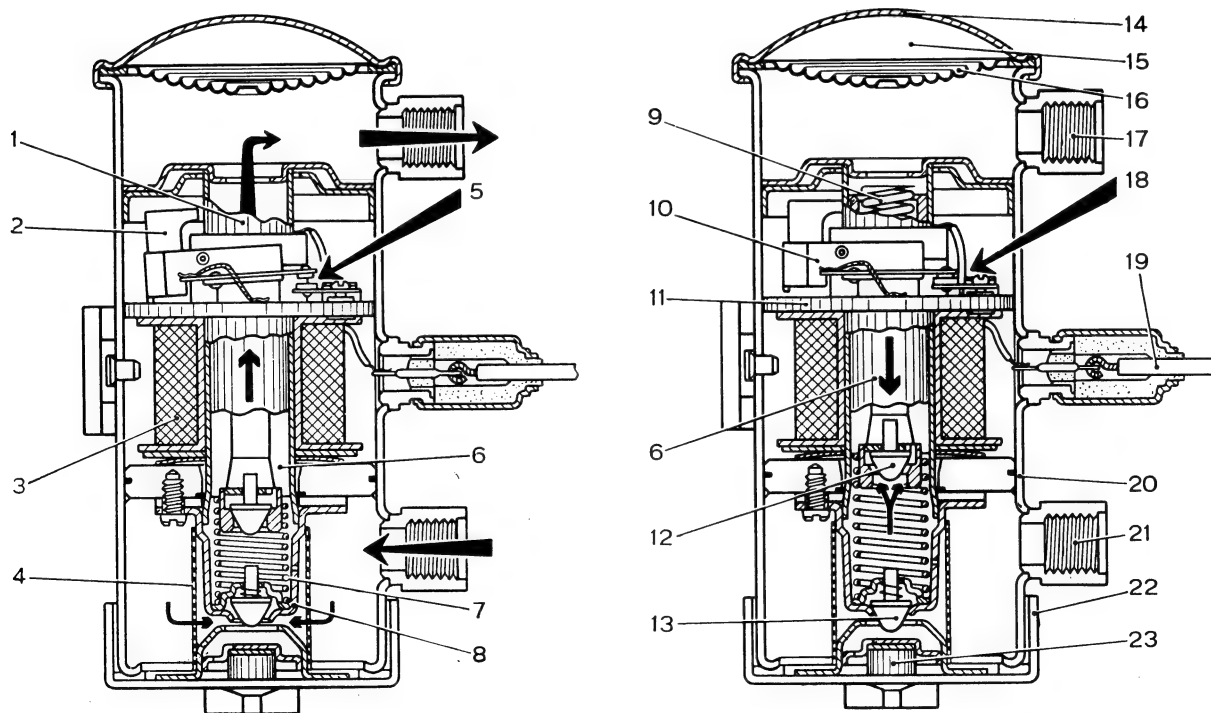

Fig. 102. - Electric fuel pump diagram.
Operation (fig. 102).
- in the upward stroke of plunger (6) the pump draws and lifts fuel (fig. 102 - left illustration);
- in the downward stroke, the plunger (6) just displaces fuel inside the cylinder (fig. 102 - right illustration).